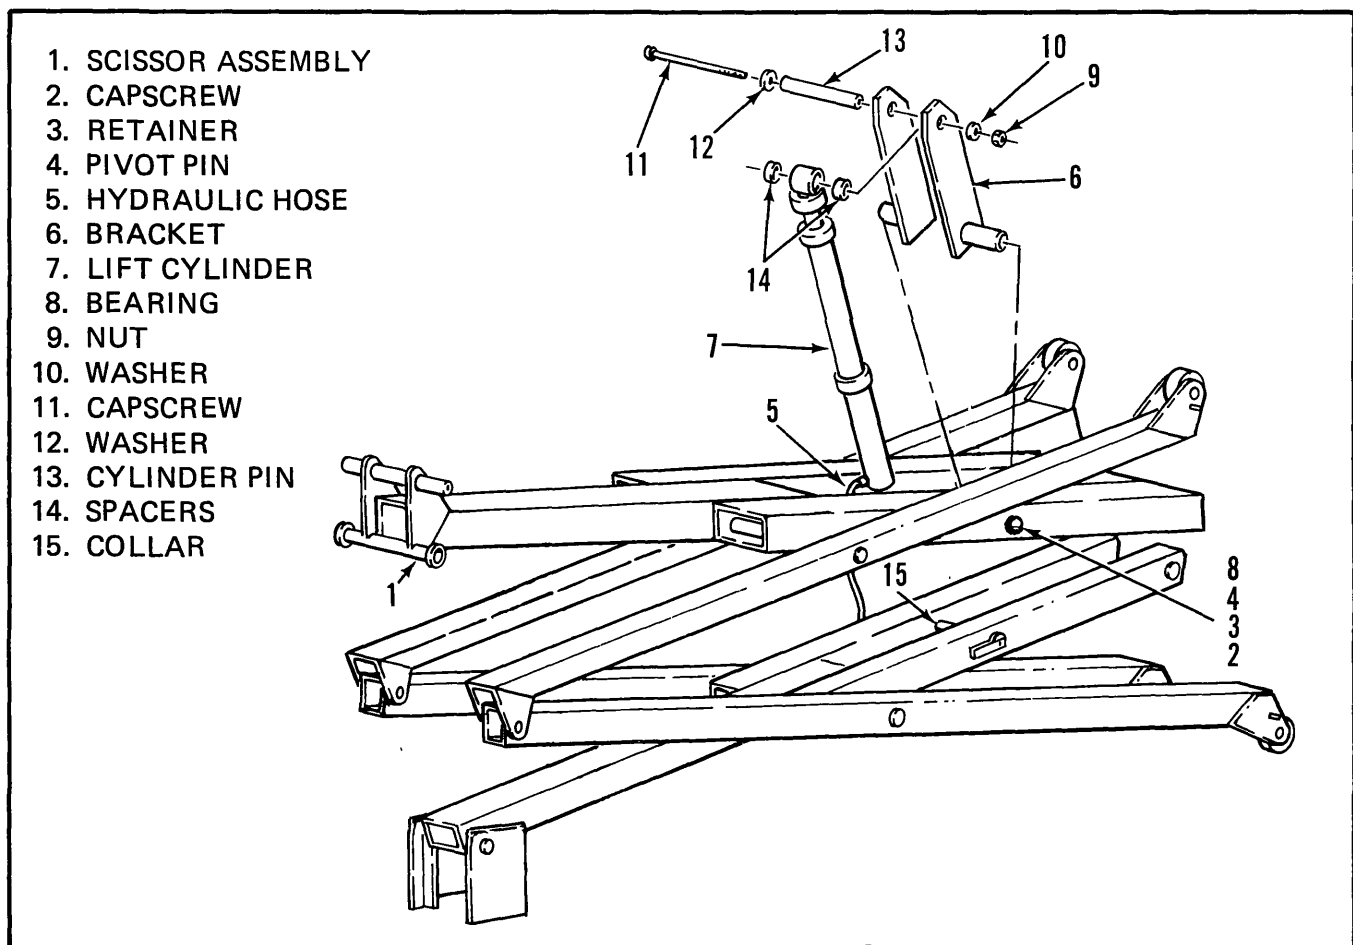
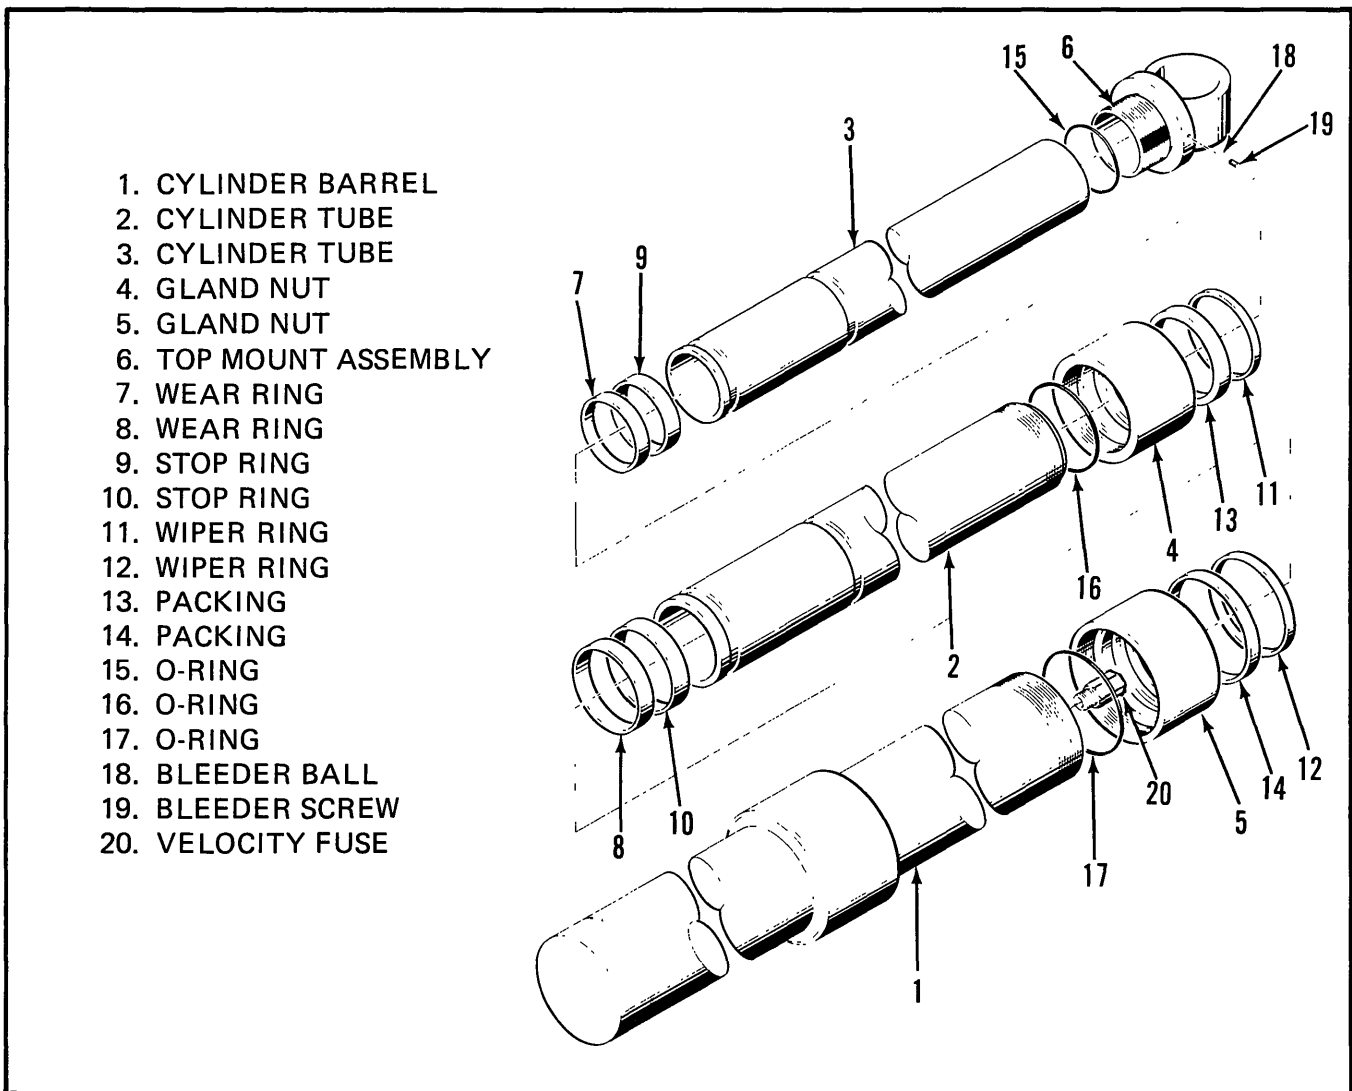

Figure 5-20. Lift Cylinder Removal
Figure 5-21. Lift Cylinder
(4) Provide a suitable container to catch the draining hydraulic fluid then, refer to Figure 5-20 and disconnect the hydraulic hose (5), and fitting, from the base of the lift cylinder (7).
(5) Remove the nut (9) and washer (10) then slide the cylinder pin (13) out to one side allowing one bracket (6) to swing free.
(6) Remove the capscrew (11), washer (12) and cylinder pin (13) allowing the other bracket (6) to swing free of the cylinder.
(7) Remove the brackets (6).
(1) Refer to Figure 5-21 and unscrew the gland nut (5) and withdraw the two cylinder tubes (2 and 3) with all the attached components. Discard o-ring (17).
(2) Remove the wear ring (8) and stop ring (10) then, slide the gland nut (5) down off the cylinder tube (2).
(3) Remove and discard packing (14) and wiper ring (12) from gland nut (5).
(4) Unscrew the gland nut (4) from the cylinder tube (2) and withdraw the cylinder tube (3) and all attached parts. Discard o-ring (16).
(1) Attach a suitable hoisting device to the top of the cylinder and install the cylinder in the scissor linkage.
(2) Refer to figure 5-20 and install the brackets (6).
(3) Position the spacers (14) between the brackets (6) and the end of the cylinder (7) then slide the cylinder pin (13) through the assembly.
(4) Install the capscrew (11), washers (12) and nut (9).
(5) Connect the hydraulic hose and fitting (5).
(6) Refer to Figure 5-21 and loosen the bleeder screw (19).
(7) Operate the hydraulic lift circuit to allow trapped air to escape the lift cylinder. Once hydraulic fluid flows continuously from the bleed port, tighten the bleed screw and check for leaks.